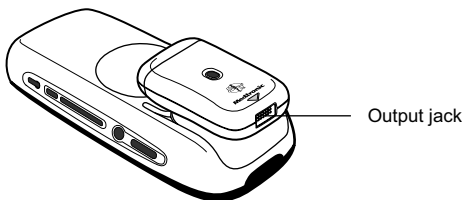

Figure 2. External neurostimulator attached to the clinician programmer.
3. Turn the neurostimulator so the output jack is positioned as displaying in Figure 2.